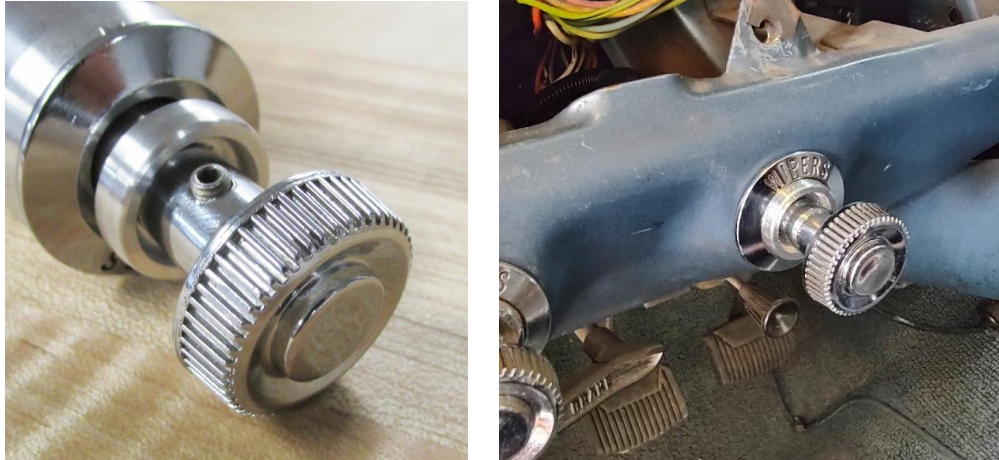

Figure 16 - Install Wiper Knob
22. Slide the wiper knob onto the switch shaft. Align the set screw with the flat on the shaft and tighten (Figure 16). **NOTE:** Make sure the set screw locks onto the flat on the switch shaft.